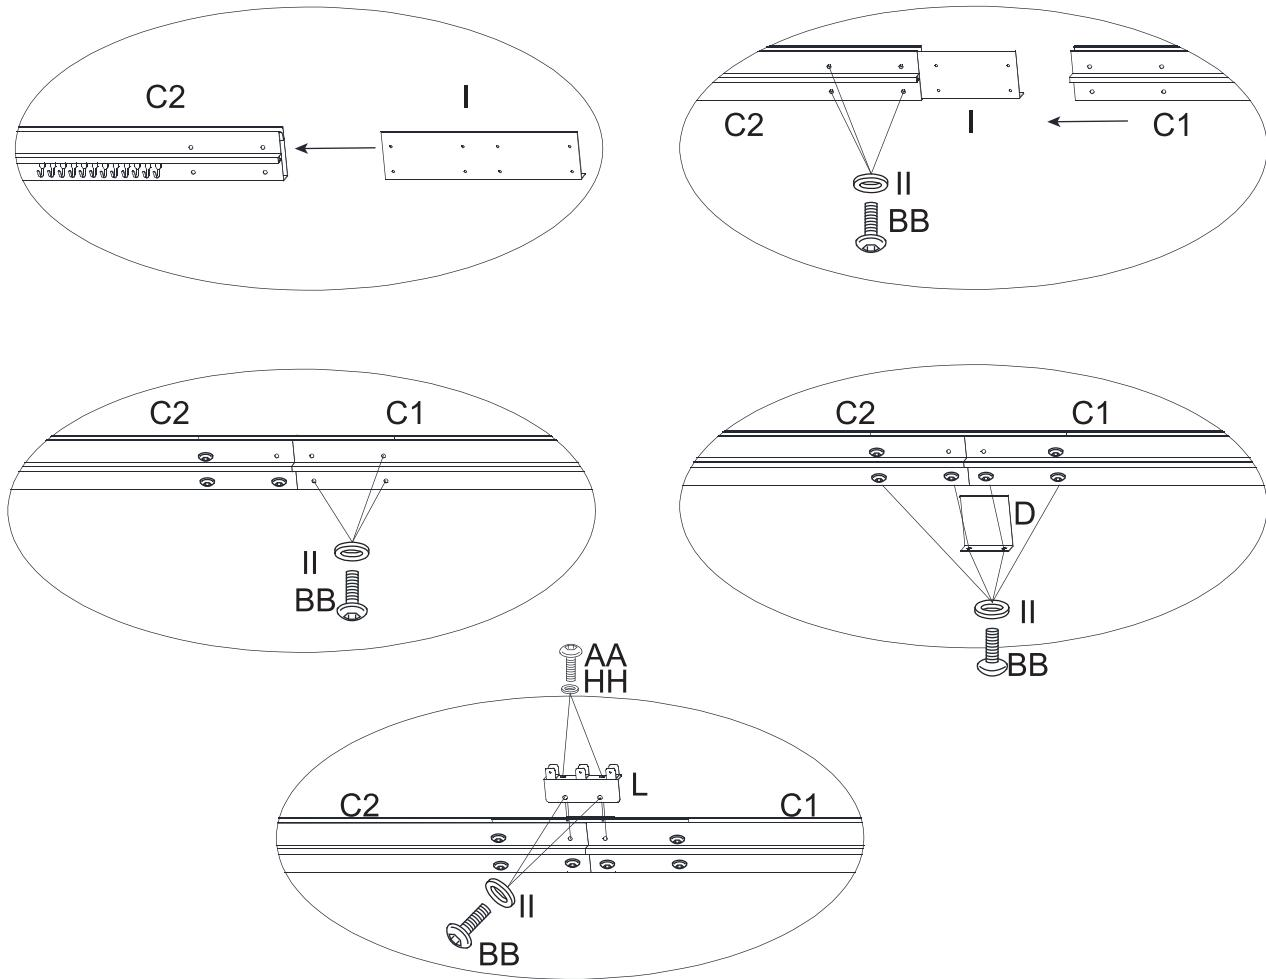

Figure 2.2
- 2.2. Connect the Short Left Lintel (C1) with the Short Right Lintel (C2) through the Lintel Connector -Large (I) by bolt (BB) and washer (II), then connect the Top Beam Guard (L) to the joint of the Lintels(C1/C2) by bolt (AA/BB) and washer (HH/II) , put the Lintel Cover - Center (D) onto the joint of the two lintels with bolt (BB) and washer (II), pay attention to install the screws based on the orders shown in the illustration. Figure 2.2.